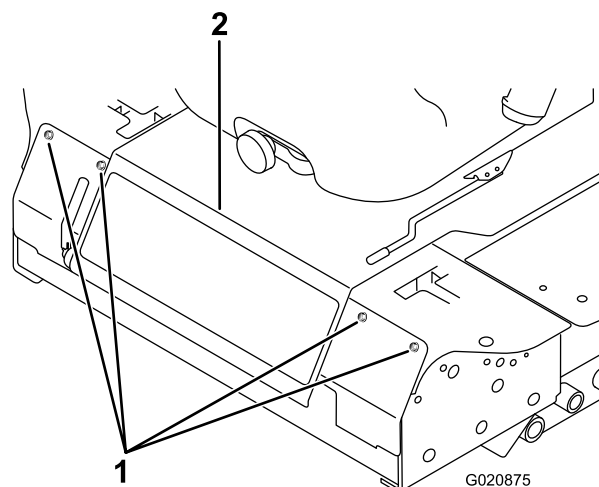

Figure 75
2. Remove the bolts securing the front panel and remove the panel (Figure 75).